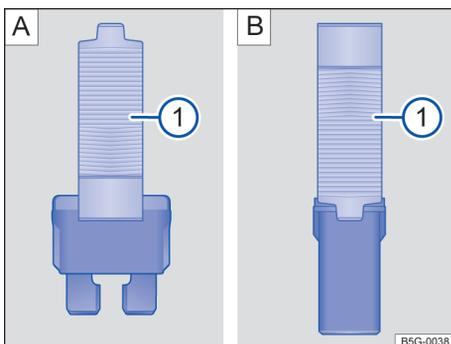

Fig. 162 Removing or installing the fuse with the plastic claw: [A]: flat fuse, [B] blocking fuse.
- If applicable, take the plastic tweezers → Fig. 162 ① out of the fuse box cover.
- According to the fuse type, apply the proper claw of the plastic tweezers → Fig. 162 [A] ① or → Fig. 162 [B] ① to the fuse sides. ▶